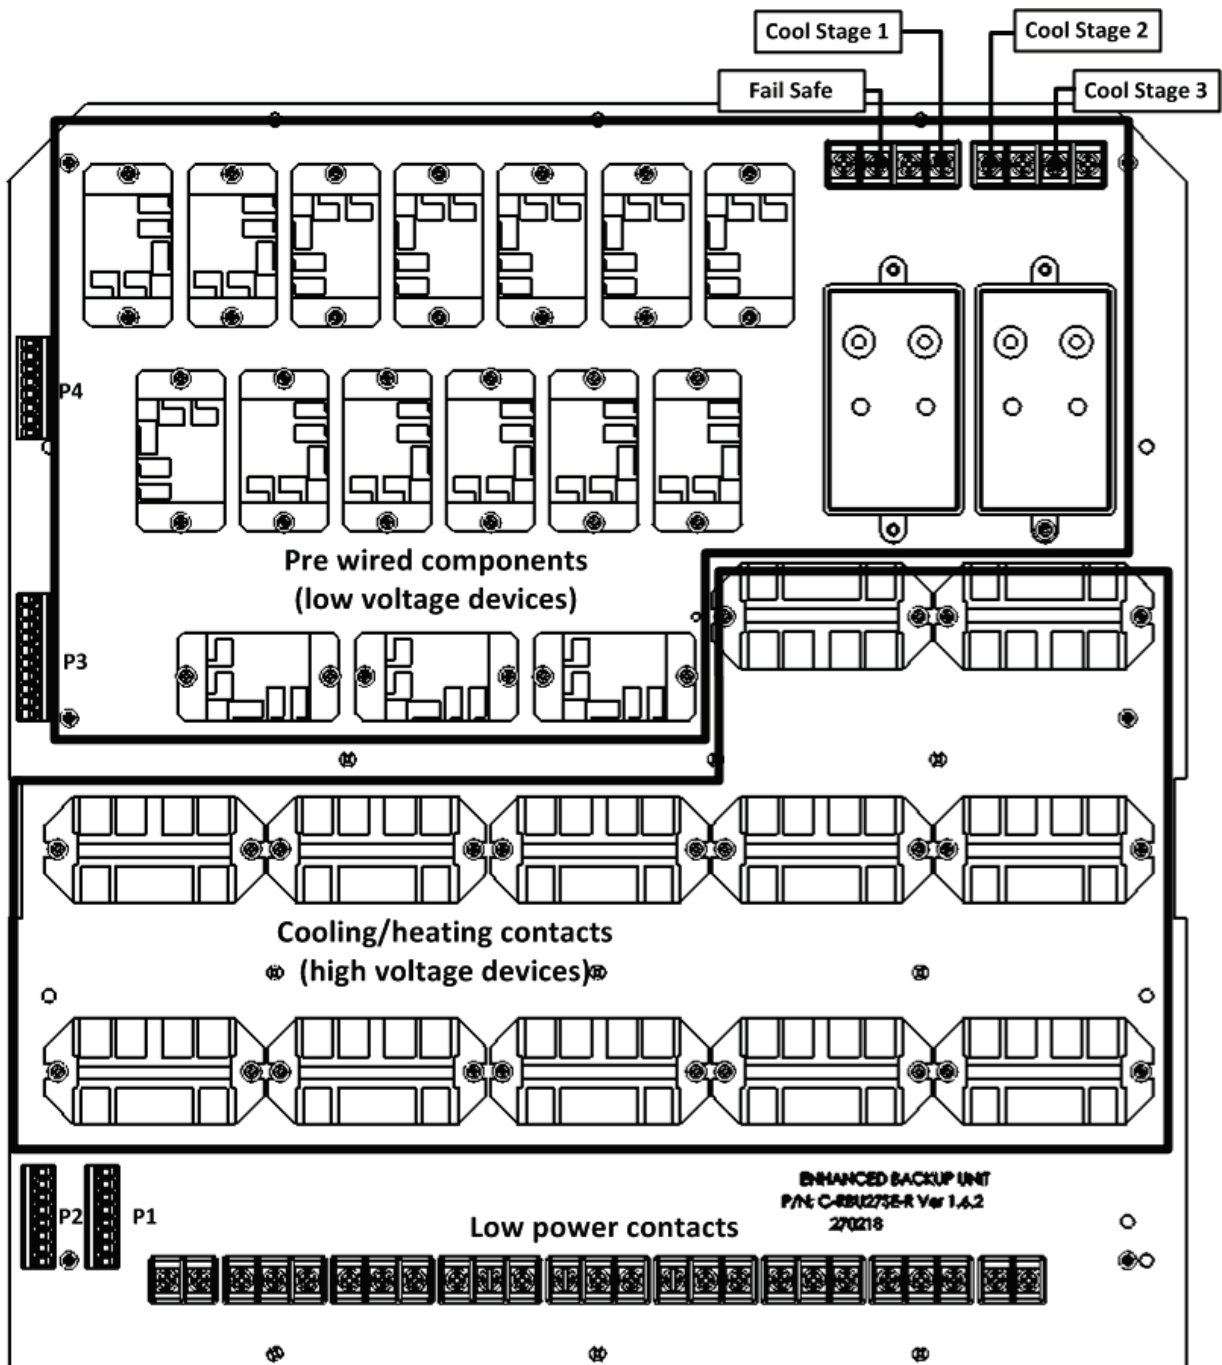

Figure 3: Card View
3. Adjust the timer delay potentiometers as required (Figure 3).